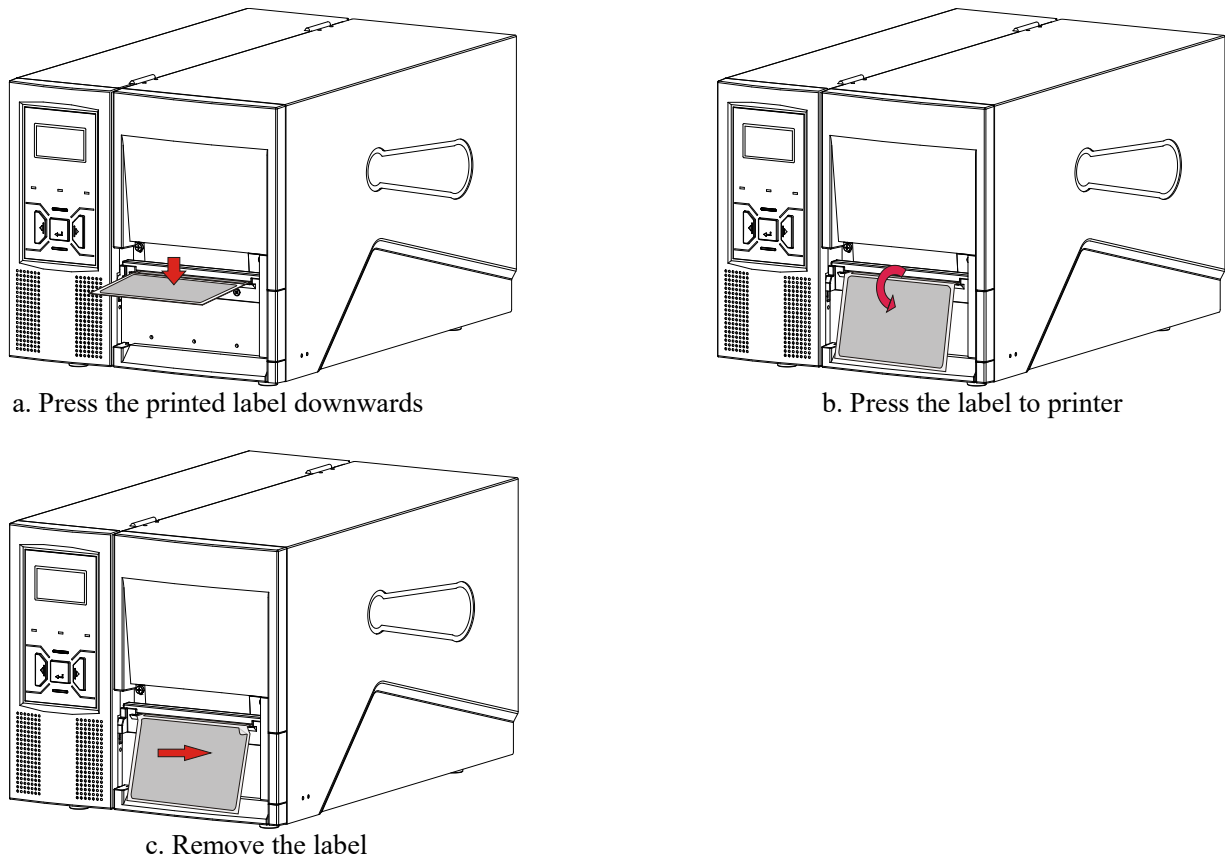

Figure 3-3
2. Follow the directions shown in Figure 3-3 to peel off the label.